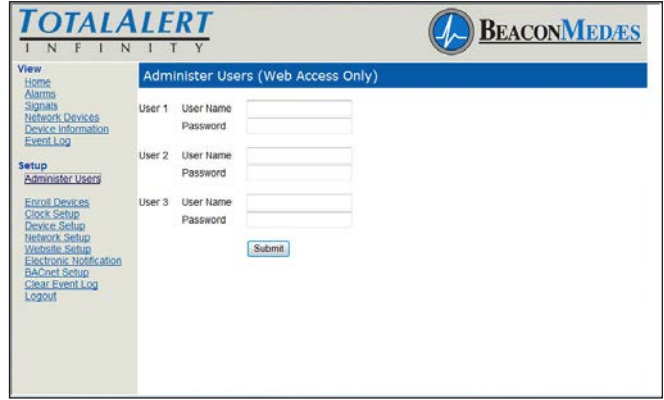

Figure 193: Administer Users
1. Click on Administer Users to access the Administer Users Setup page (Figure 193)